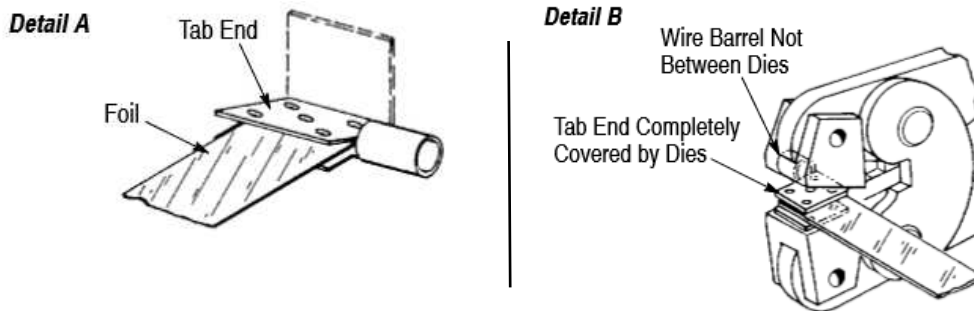

Figure 3
2. Place the foil between faces of the tab end of terminal or splice and squeeze the faces together manually (see Figure 3, Detail A).
3. Place the tab end and foil between the crimping dies as shown in Figure 3, Detail B. **Make sure the tab end is completely covered by the dies.** DO NOT place the wire barrel between the dies.